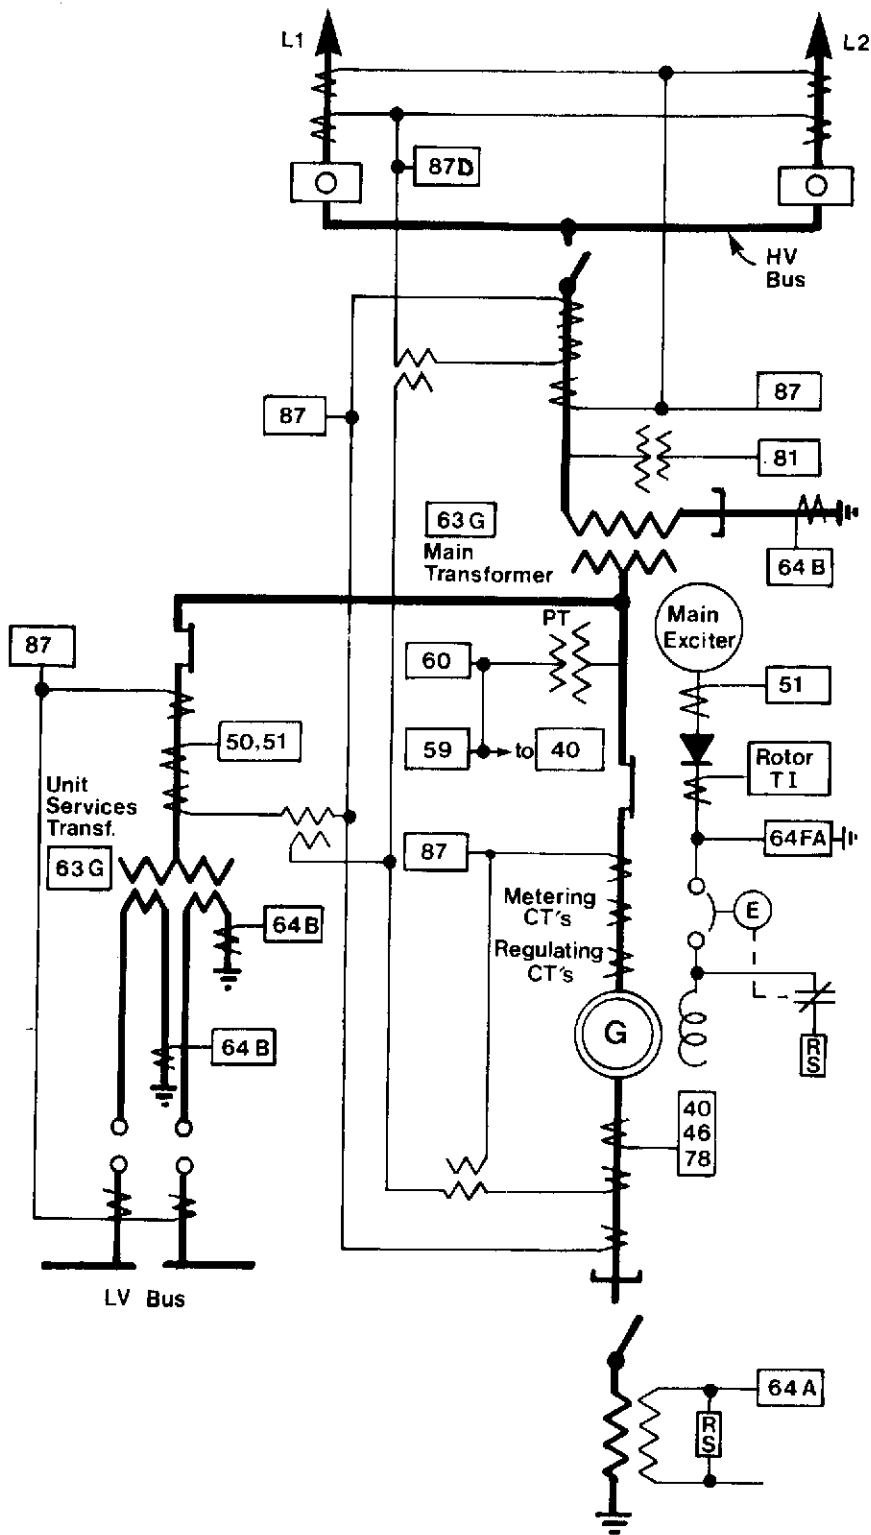

Figure A1: Simplified single line protection diagram for a turbine-generator.
1. For the protection shown on the accompanying diagram, Figure A1: